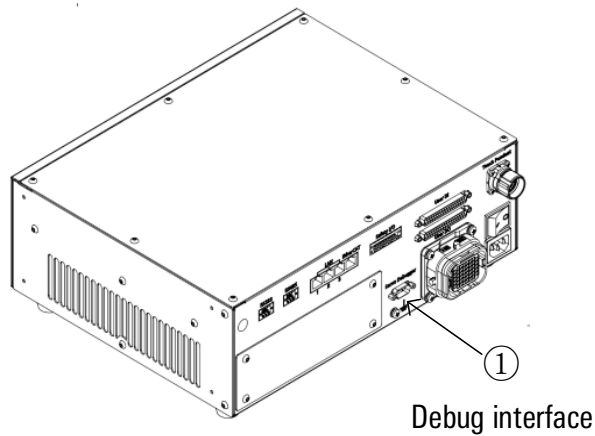

Figure 6-1 Interface of control cabinet Servo Debugger
The Servo Debugger interface of the inCube2S-6 control cabinet is a multi-axis drive debugging interface, located on the rear panel of the control cabinet. Refer to Figure 6-1 below. When debugging the multi-axis drive parameters, you need to use an RS422 to USB cable to connect to the interface shown in Figure ①.